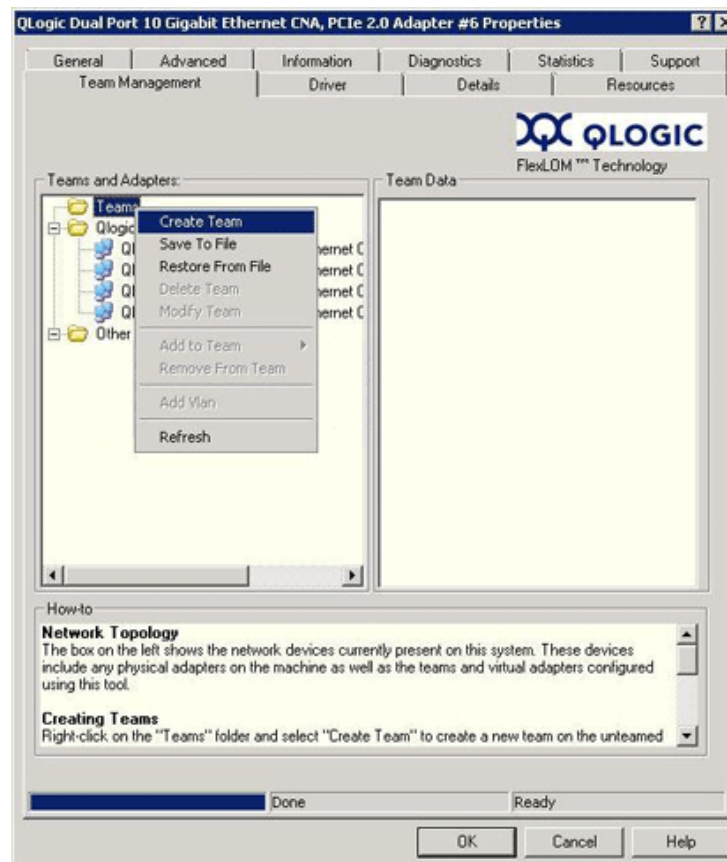

Figure 2-6. Creating a Team
1. To create a team, right-click the **Teams** folder icon, and then click **Create Team** (Figure 2-6).